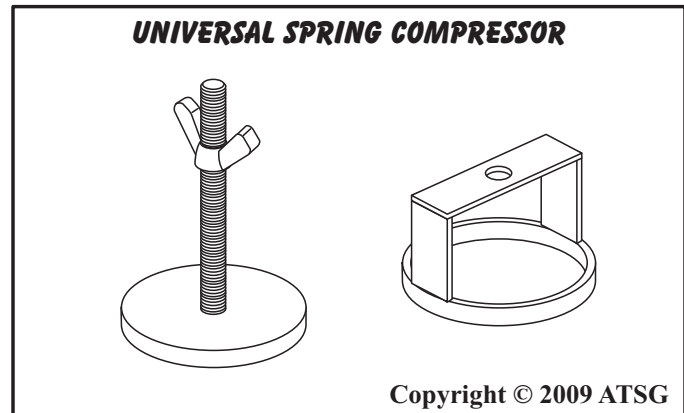

Figure 201
25. Install the universal spring compressor, shown in Figure 201, through the rear of the case.